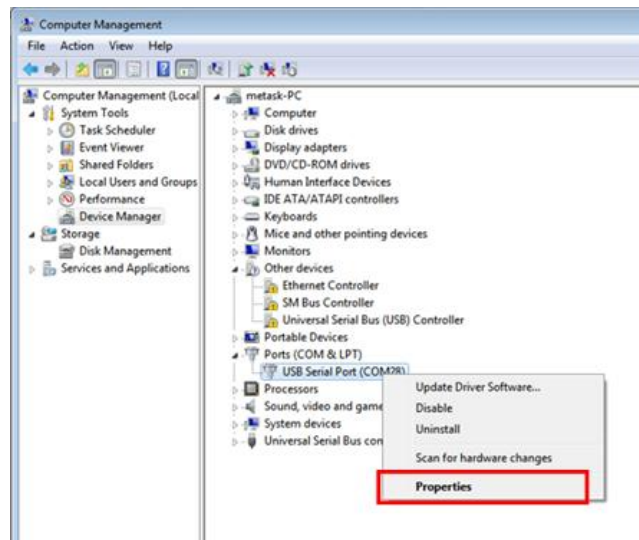

Fig. 3.17
5) Right click on 'USB Serial Port', and select 'Properties' on the pop-up menu (Fig. 3.17).